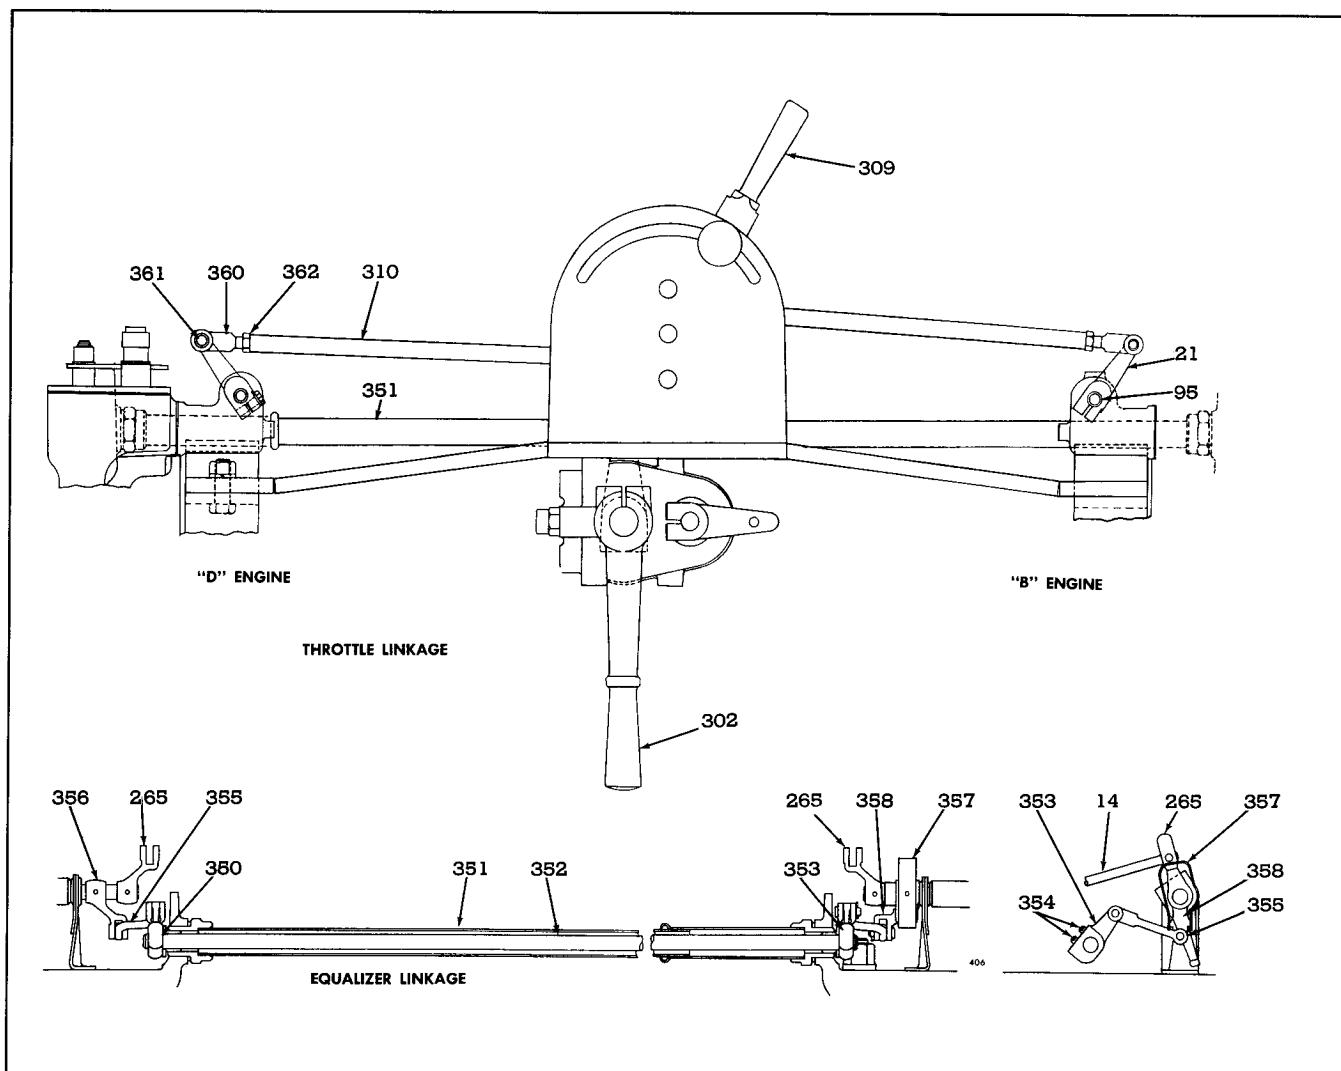

Fig. 4 - Throttle Control and Equalizer Linkage Diagram (Tandem Twin Unit)
Refer to Fig. 4 and place master control lever (302) in NEUTRAL position and remove rocker covers. Then, disconnect equalizer links (355) from injector control tube levers (356) and (358). Disconnect throttle control rod from each governor speed control lever (21) by removing clevis pin (361) from clevis (360), then perform the following steps:
With engines stopped and throttle control mechanism well lubricated and free of any binds, refer to Fig. 4 and perform the following adjustments on both engines.
1. Engage the individual engine throttle control levers (309) to the master throttle control lever (302).
2. Lock the throttle control levers in the IDLE position as shown in Fig. 4.
3. Loosen lock nut (362) and disconnect throttle control rod clevis (360) from each governor speed control lever (21) by removing clevis pin (361), if not previously disconnected.
3. Connect equalizer links (355) to injector control tube levers (356) and (358), see Fig. 4.
4. Loosen bolt on equalizer shaft clamping lever (350) on "D" engine so the lever can turn freely on the equalizer shaft (352).
5. Turn both the adjusting screws (354) into the equalizer shaft adjusting lever (353), on "B" engine, the same number of threads until they contact the flats on the equalizer shaft.
6. Move equalizer link (355), which is connected to the equalizer shaft adjusting lever on "B" engine, with the adjusting screws until equal clearance (approximately .020") exists between each leg of the equalizer spring (357) and its adjacent boss on the injector control equalizer lever (358); then tighten screws.
7. While holding the equalizer link in this position, tighten the clamping bolt on lever (350) of "D" engine.
8. Recheck the clearance between legs of equalizer spring and bosses. If clearance is not the same on both sides, loosen equalizer shaft lever clamping bolt and readjust the equalizer shaft adjusting lever (353) with screws (354) until clearance is equal, then tighten clamping bolt.
9. Lubricate the clevis joints of the equalizer linkage with a few drops of engine oil; then, move the master throttle control lever (302) back and forth to check for binding in the linkage. Correct any binding that exists.
13. If the speeds in Steps 11 and 12 above are not as previously set, adjust lever (353) by means of set screws (354), with engine running, until previously set idle and no-load speeds are obtained.